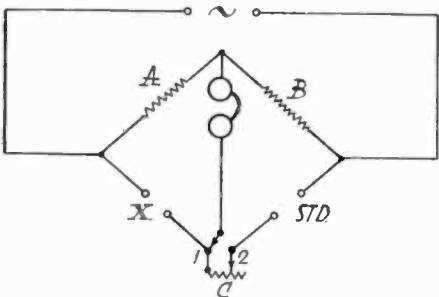

Fig. 4
1. The circuit of the General Radio Decade Bridge is shown in Fig. 4. Explain what other equipment you would need and how you would proceed to measure the inductance of a small air core coil of approximately 300 microhenries; to measure a paper condenser of unknown value; probably between .1 and 2 mfd.?
It is assumed that "definite operating conditions" refers to the inductance of the choke while direct current is being passed through the windings. An inductance bridge such as is shown in Fig. 4 can be used, if the direct current through a suitable high resistance is impressed across the points of the bridge to which the headphones are connected, and the standard is a condenser group instead of a standard inductance. As most iron core chokes have a value of inductance much higher than is available in variable standards, the reactance balance method is preferable. A special bridge can also be set up, having ratio arms on opposite sides, as was described in RADIO in the September 1924 issue, the d.c. current supply and the a.f. source being in series.